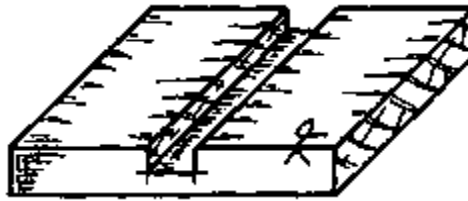

Fig. 5
- Chisel out the waste from the trench (Fig. 5).